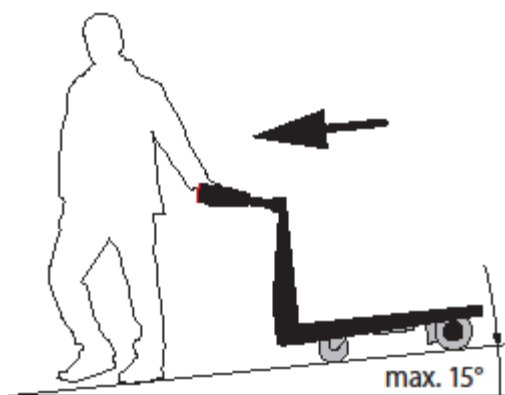

Fig. 7
- Stay on the side of the Tiller-Head with your face turned away from the Movexx and the trolley. This is the pull-position. Keep enough distance from the trolley and the Movexx so that you won't get stuck with any parts of your body. The Movexx may only be operated over flat and downhill slopes in a pulling position. (if there is a brake on the machine) (Fig. 7)